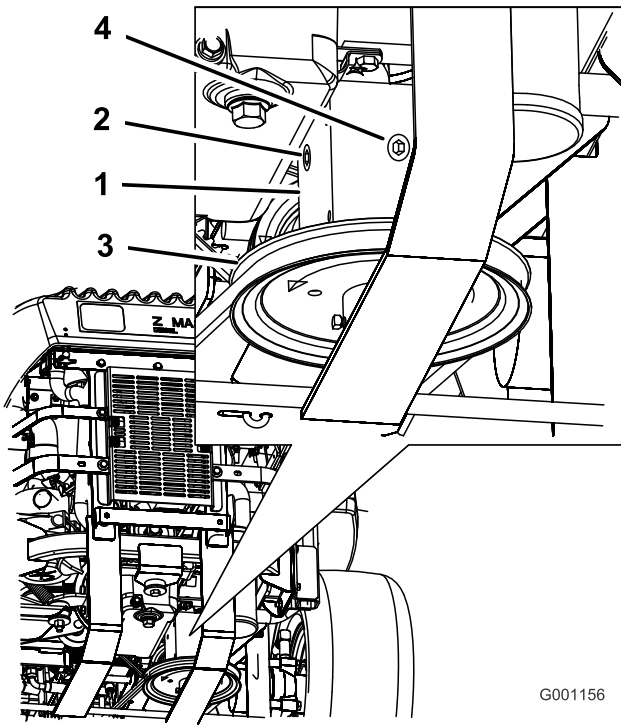

Figure 67
3. Remove the side or rear plug on the gearbox (Figure 67).